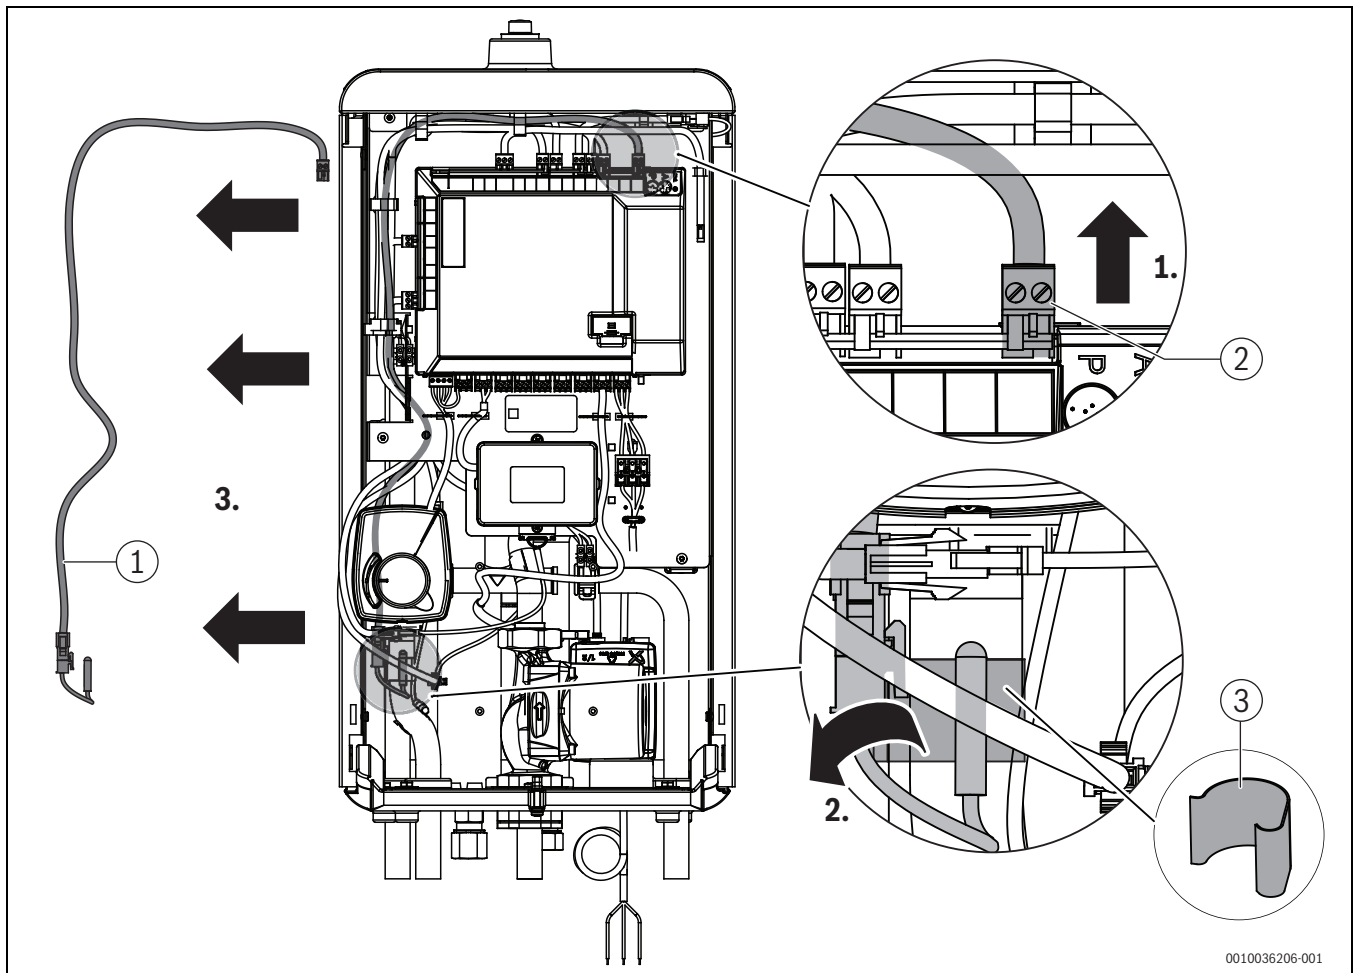
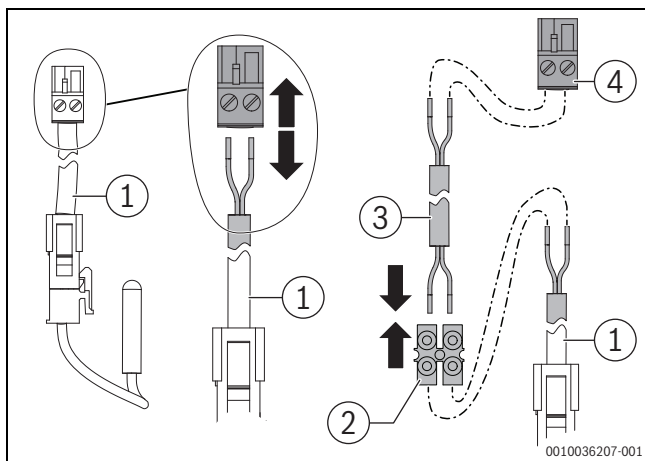

Fig. 34 Remove the flow temperature sensor with cable
Fig. 35 Extending the flow sensor cable
If the flow temperature sensor is installed outside the indoor unit on the buffer cylinder or downstream of the bypass, it must be completely removed from the indoor unit (→ Fig. 34) and if necessary extended using a suitable extension cable (H03VV-F 2x0.5 mm²) of corresponding length, as described below (→ Fig. 35).
- ▶ Remove the plug from the cable (→ Fig. 35).
- ▶ Install the plug on the extension cable (→ Fig. 35) and plug into the T0 connection.
- ▶ Connect the extension cable to the cable of the temperature sensor using a connection terminal (→ Fig. 35).